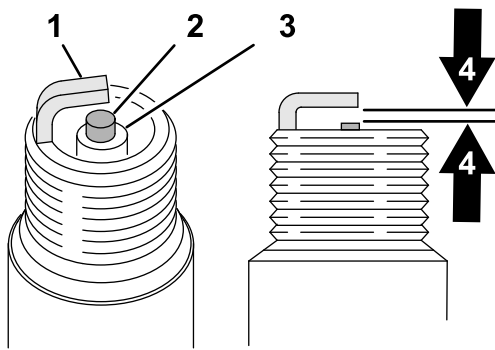

Figure 154
1. Look at the center of both spark plugs (Figure 154). If you see light brown or gray on the insulator, the engine is operating properly. A black coating on the insulator usually means the air cleaner is dirty.